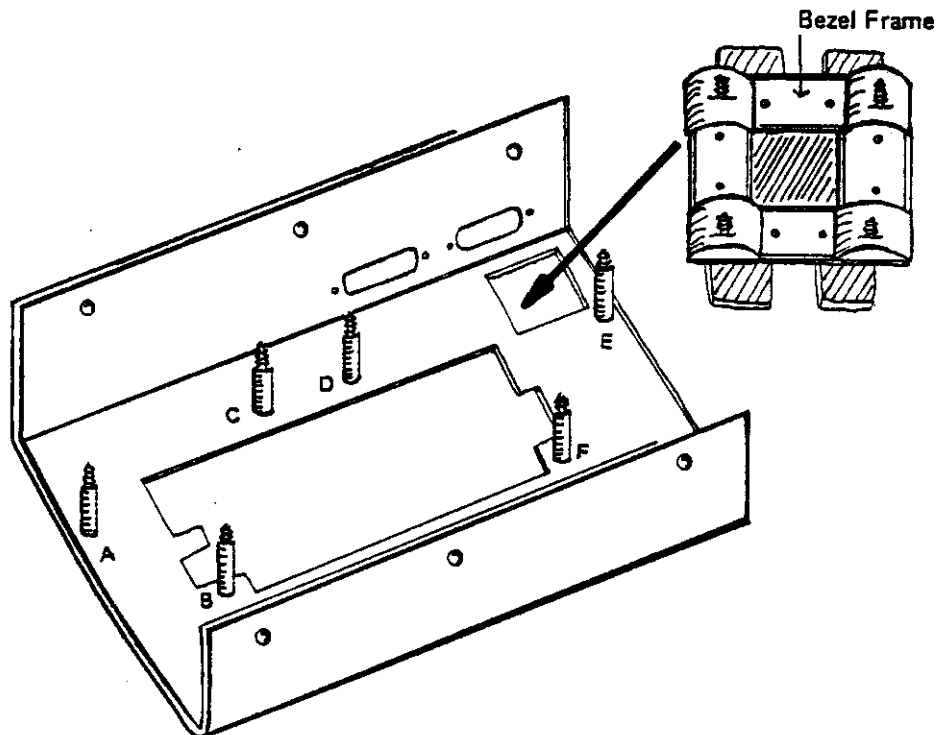

FIGURE 8: Filter Window Assembly
- () 53. Locate the black plastic bezel frame; slip the cover onto the bezel so that the four bezel pins project through the holes at the corners of the bezel frame. See Figure 8.
- () 54. Locate four black curved plates, each containing a hole in its center. Press-fit one plate over each of the bezel pins until the plates snap onto the frame. See Figure 8.
- () 56. Install six (6) 6-32x1 1/2" black screws from the front of the cover plate to the inside, at the positions indicated in Figure 8 (i.e., the screws designated as A, B, C, D, E, and F).
- () 57. Slip six (6) white plastic spacers over the screws installed in Step 56.